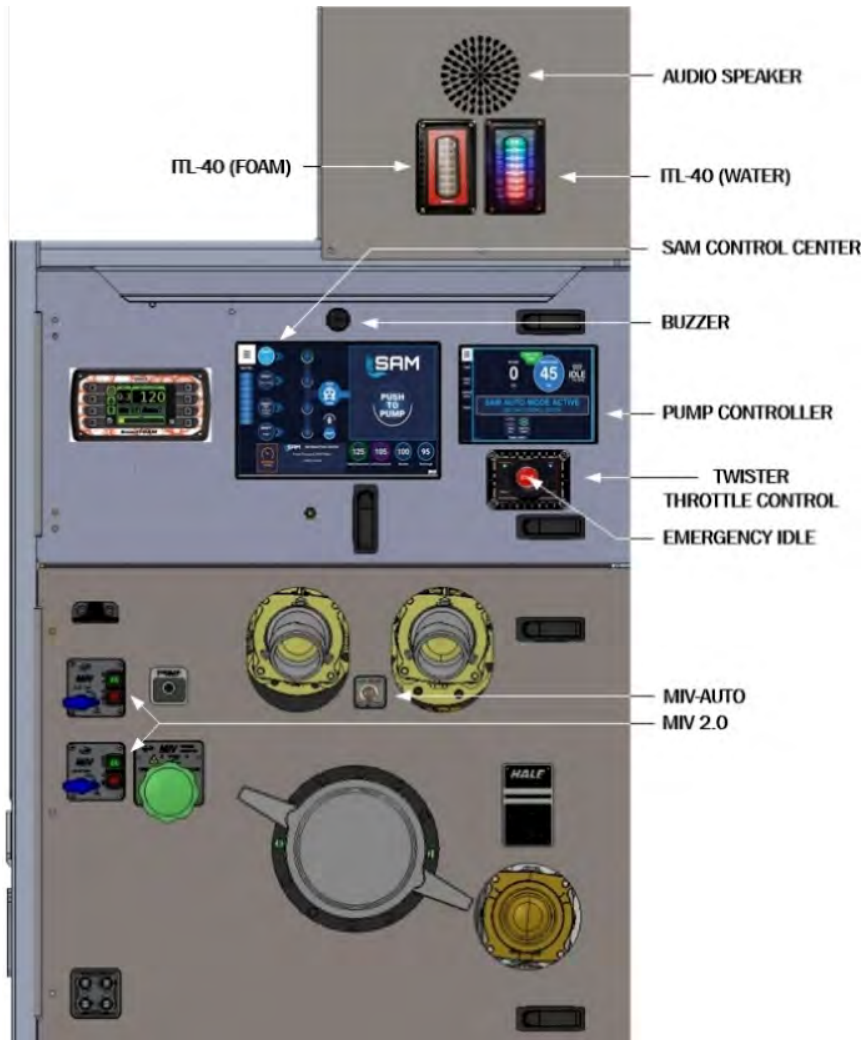
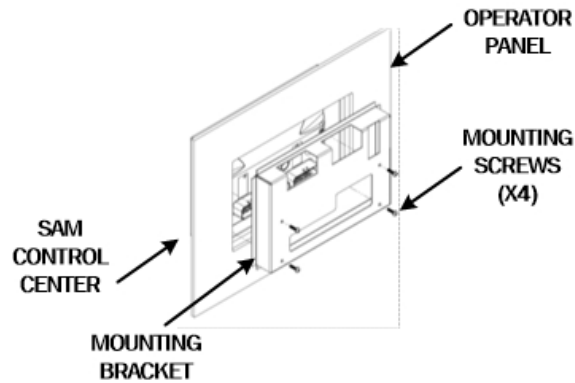

Figure 32. SAM Panel Components Locations (Operator Panel)
Figure 34. SAM Control Panel R&R
The SAM system houses the following components on the apparatus; typically, on the pump operator panel. See Figure 32.
A SAM system always provides at least one (1) SAM Control Center touchscreen (the master, Figure 32), and optionally, up to two (2) more SAM Control Center touchscreens (the auxiliary SAM Control Centers). If the master (or an auxiliary) touchscreen (Figure 34) fails to function (the touchscreen provides program storage and execution, touch type man/machine interface, and Wi-Fi [master only] for the mobile tablet) or is damaged; replace the SAM Control Center as follows.
- D. Using 5/64-in hex socket and ratchet (set CCW) (or Allen key), loosen four [4] 8-32 x 1/2-in long button head hex screws. See Figure 34.
- F. From rear of panel, remove SAM Control Center mounting bracket. See Figure 34.
- G. From front of panel, remove SAM Control Center. See Figure 34.
- A. From front of panel, align new SAM Control Center with opening in panel. See Figure 34.
- B. From rear of panel, place bracket over rear of SAM Control Center. See Figure 34.
- C. Support SAM Control Center and bracket; hand start four [4] 8-32 x 1/2-in long screws (each with a lock washer). See Figure 34.